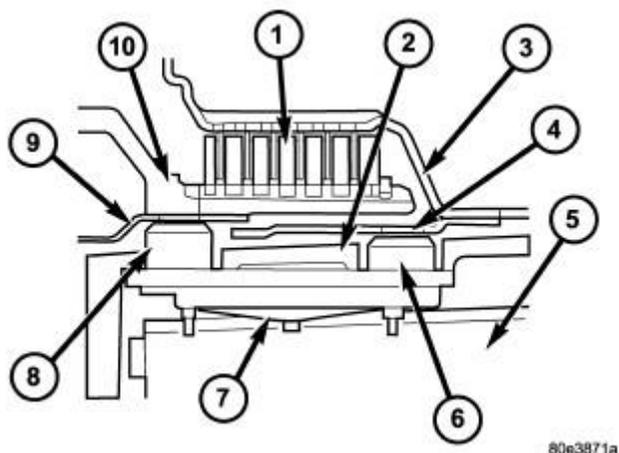

Fig. 192: Transmissions Speed Sensors N2 & N3
The speed sensors, N2 and N3, (6, 8) are fixed to the shell of the electrohydraulic control unit's leadframe via contact blades. Refer to **Fig. 192**. The speed sensors are pressed against the transmission housing (2) by a spring (7) which is held against the valve housing of the shift plate (5). This ensures a defined distance between the speed sensors and the exciter ring (4).